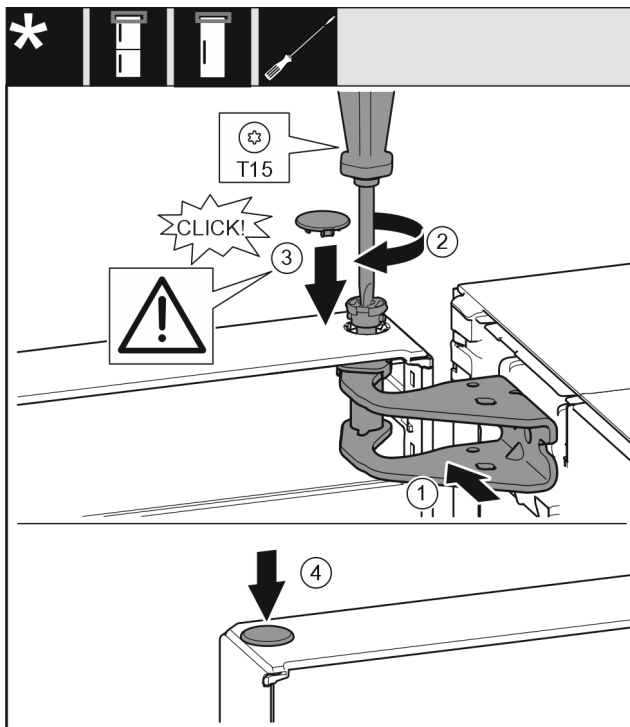

Fig. 22
- ▶ Align the top of the door with opening in the bearing bracket. Fig. 22 (1)
- ▶ Insert the bolt and tighten with a T15 screwdriver. Fig. 22 (2)
- ▶ Fit the protective cover to protect the door: Insert the protective cover and check that it is flush to the door. If not, insert the bolt fully. Fig. 22 (3)
- ▶ Insert the plugs. Fig. 22 (4)